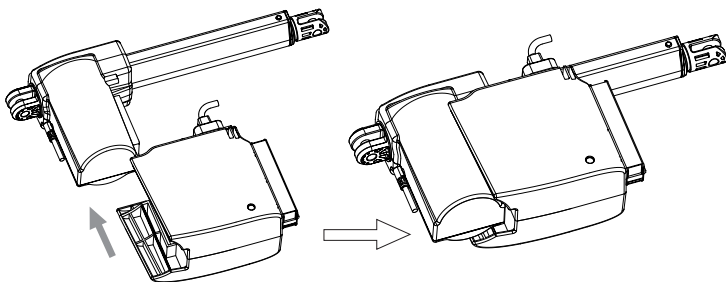

Fig. 1
4.1 Step 1: Align a bolt on LAK4D controller with a notch on LAN5 to insert downward(Fig. 1). There is a tube-bolt circled in the fig.2 to fix an actuator and controller.